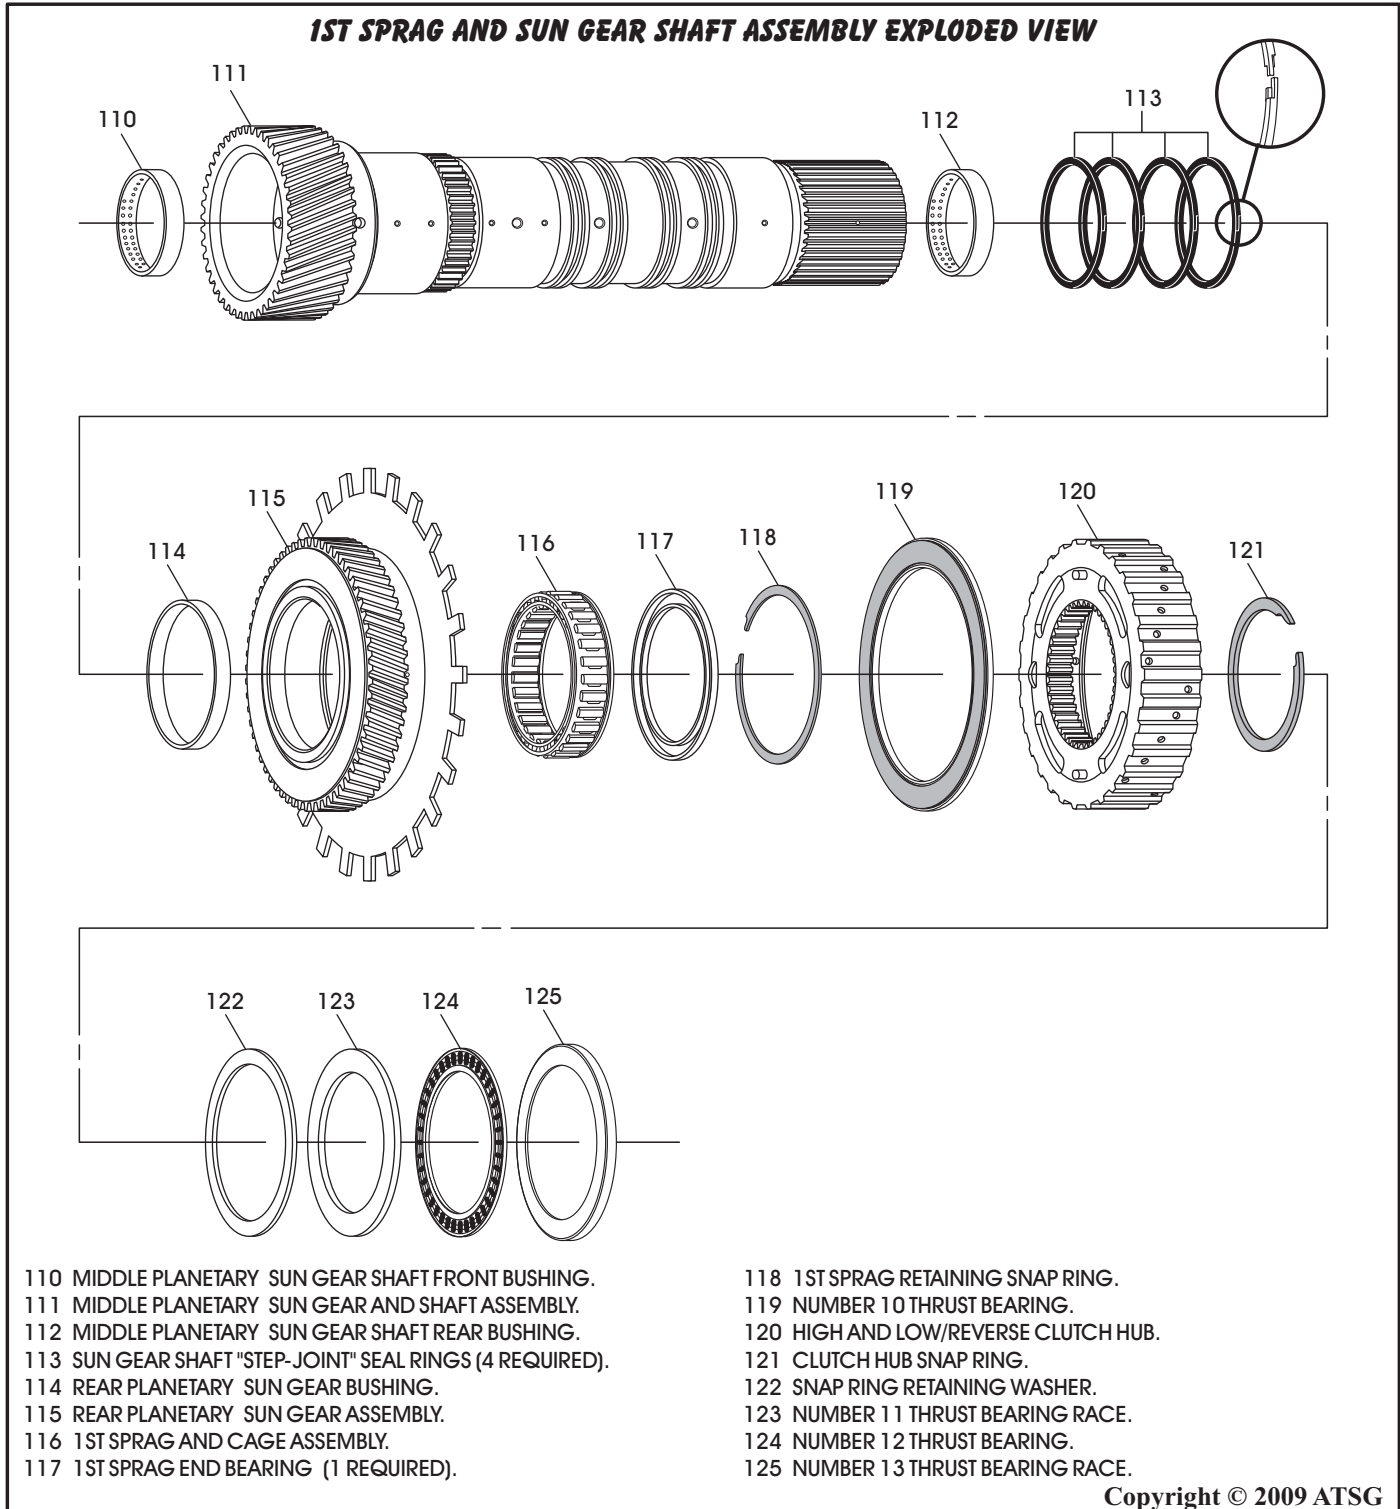

Figure 114
1. Disassemble the 1st sprag and sun gear shaft assembly, using Figure 114 as a guide.
4. Remove and discard the four "stepped" sealing rings, as shown in Figure 114.